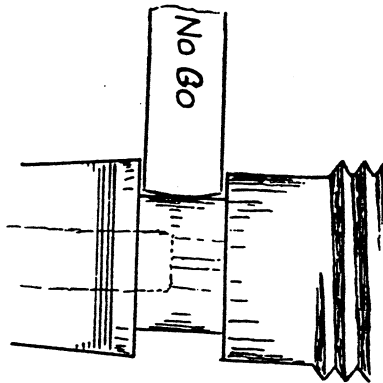

Fig. 64
- Step 2. Without forcing try to insert the "No Go" (maximum) end of the gauge into the collector weir vent slot at the portion of the shank that remains exposed. Figure 64. If the "No Go" gauge fits snugly enough to allow lifting the pen off the work bench by the gauge, or if the